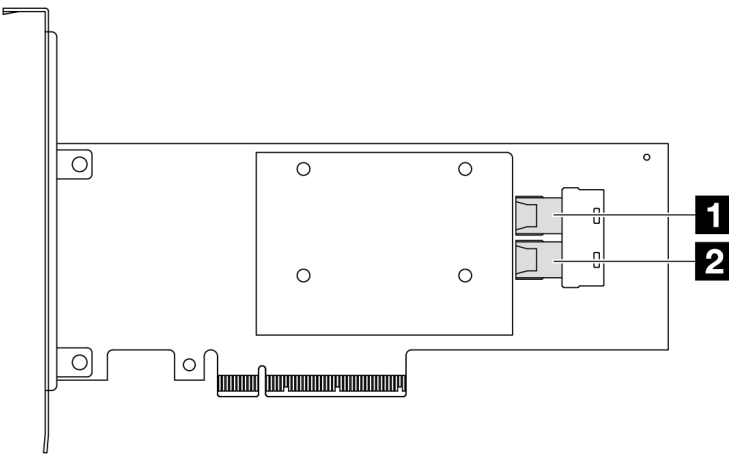

Figure 248. A Gen 3 8i SFF RAID/HBA adapter (two port connectors)
- Figure 248 “A Gen 3 8i SFF HBA adapter (two port connectors)” on page 283